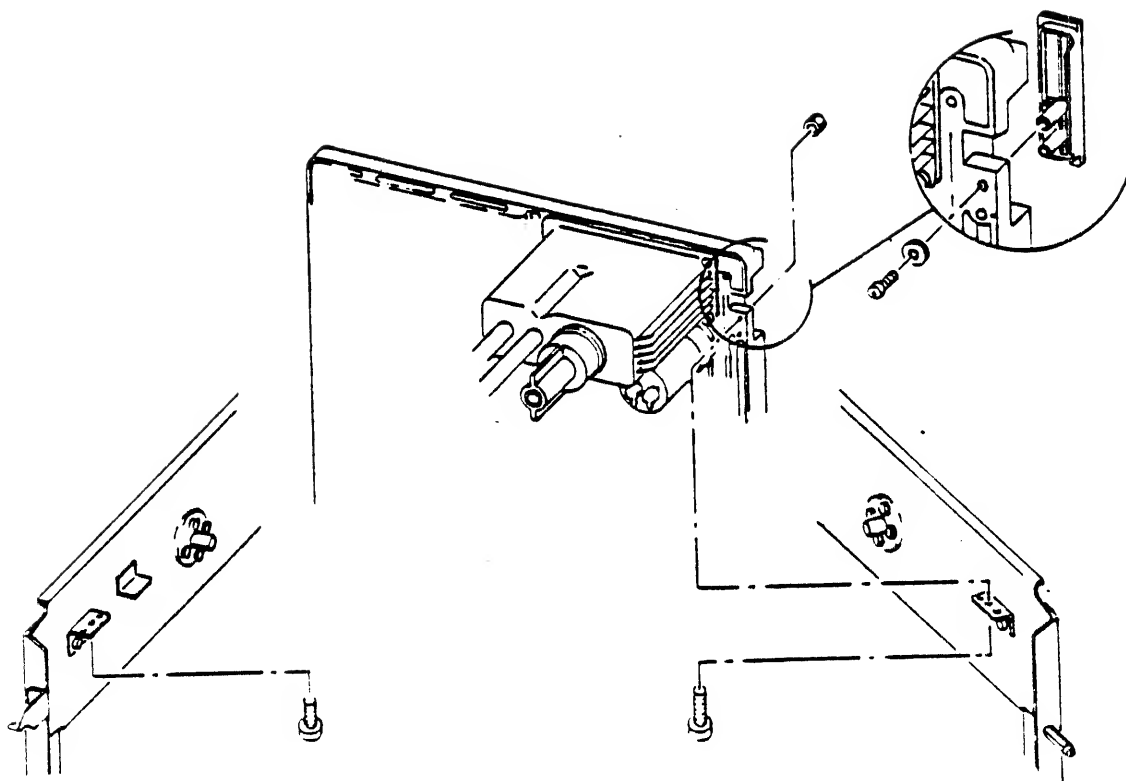

Figure 3-18. TAPE DECK SHIPPING SCREWS
16. From the underside of the tape deck, remove the two bolts (one on the left side and one on the right side) passing through the angle brackets into the tape deck. See Figure 3-18.